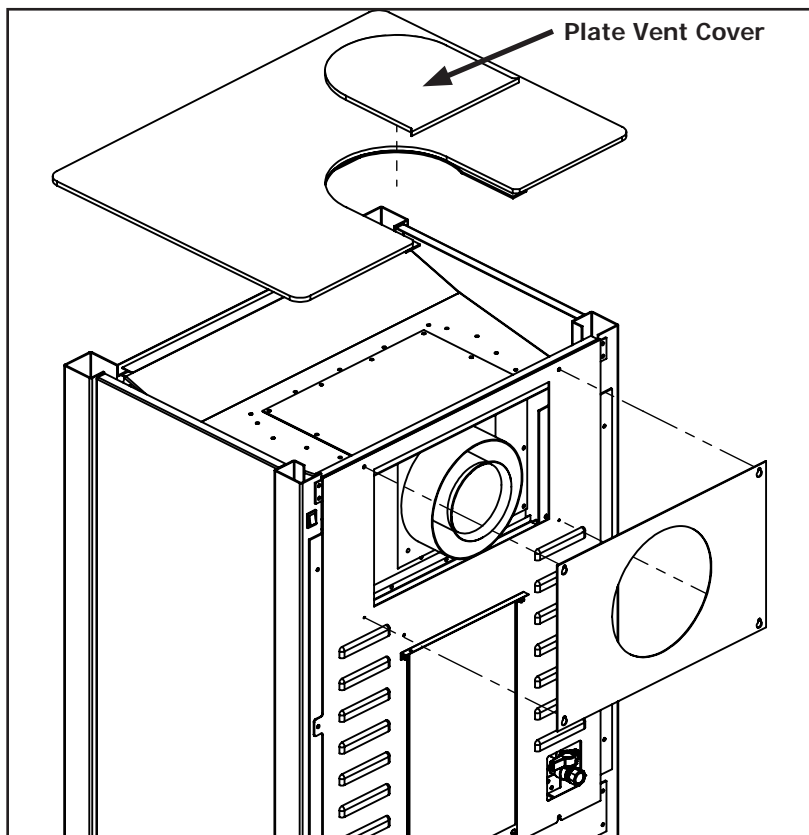

Figure 28: Vent Conversion - Step 4
Step 4: Re-install the plate top by aligning the bolt heads on the bottom side with the rear mounts (see Figure 28). Re-install the back plate and tighten the four retaining screws. Finally, install the plate vent cover supplied with the S201/ S201D as shown.